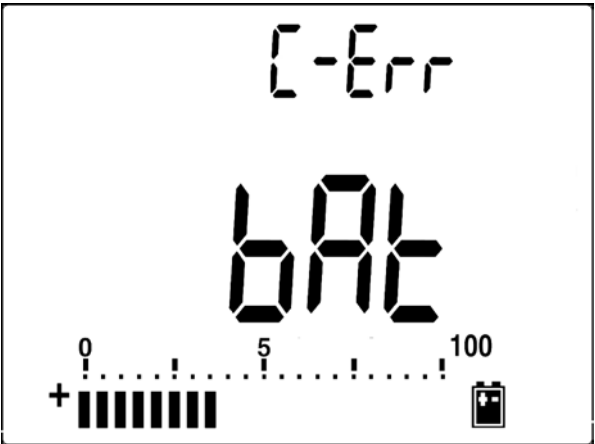

Figure 5-3 Self-test
- 5 After pressing **SHIFT** or when the self-test starts, the meter performs a self-test to check if the battery in the meter is the rechargeable type. The self-test takes about 2 to 3 minutes. Avoid pressing any button during the self-test. A message is displayed as shown in Figure 5-3.